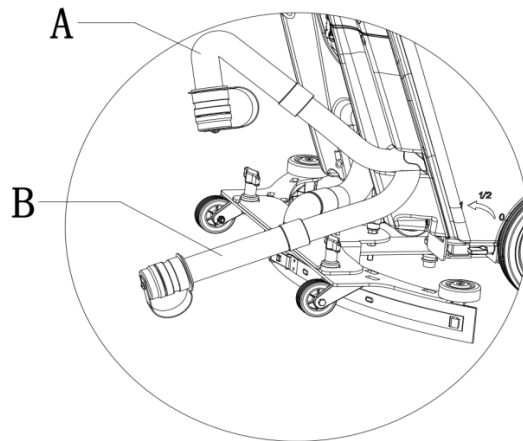

Figure 13
1. Take down the drain hose and fold the upper end (as shown A in Figure 13). Then lay down the drain hose to low spot or on the ground and unscrew the cover to empty the tank (as shown B in Figure 13).
Make sure the drain hose is lay down to low spot or on the ground (shown as A or B in figure 13) to avoid any dirty water spray to the operator.